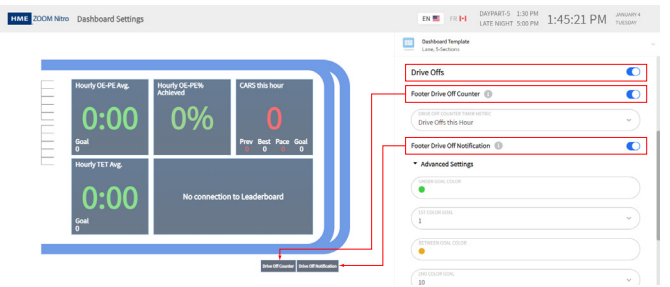

Fig. 5.11
2. Toggle all three Drive Off buttons to enable the counter and notifications, see Fig. 5.11